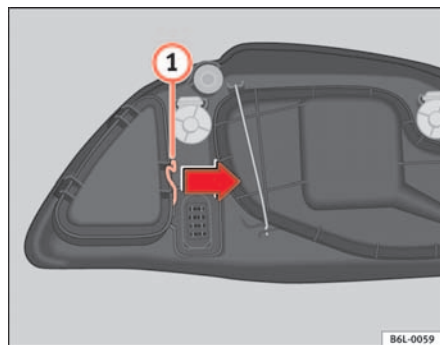

Fig. 146 Side lights
- Remove the loops (1) ⇒ fig. 146 in the direction of the arrow and remove the cover.